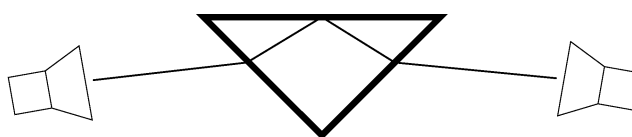

Figure 7: Total internal reflection of microwaves through the wax prism.
15. Use one of the wax prisms to demonstrate total internal reflection. Describe in detail how you demonstrated the phenomenon of total internal reflection, see Figure 7.